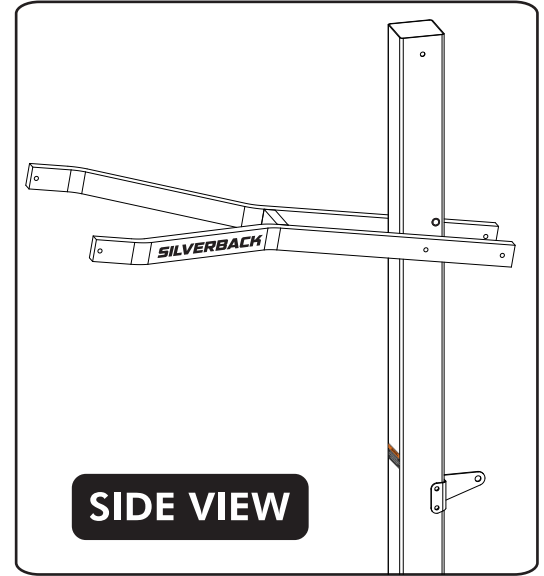

Figure 7
8. Attach lower arms (#11) to Top Pole (#3), as shown in Figure 7, using a hex bolt (#22), two flat washers (#18), two plastic washers (#5) and lock nut (#4).
Note: make sure lettering is right side up. (See Side View). DO NOT tighten bolt (#22) at this time. (See Figure 7.)